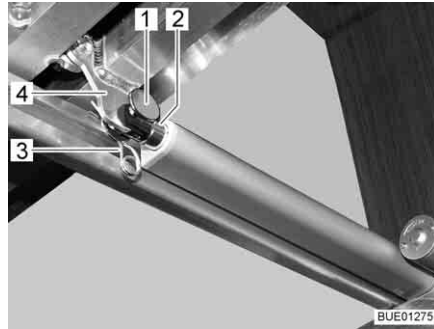

Fig. 104 Drive
- Remove the connection (e.g. pin and cotter pin (Fig. 104,1 and 3)) between the push rod (Fig. 104,2) and the slatted frame (Fig. 104,4).